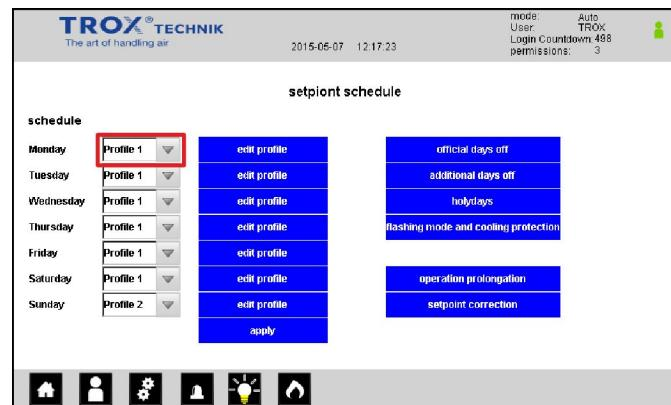

Fig. 30: Setting a schedule
1. ▶ Select a set profile for a day of the week (Fig. 30).